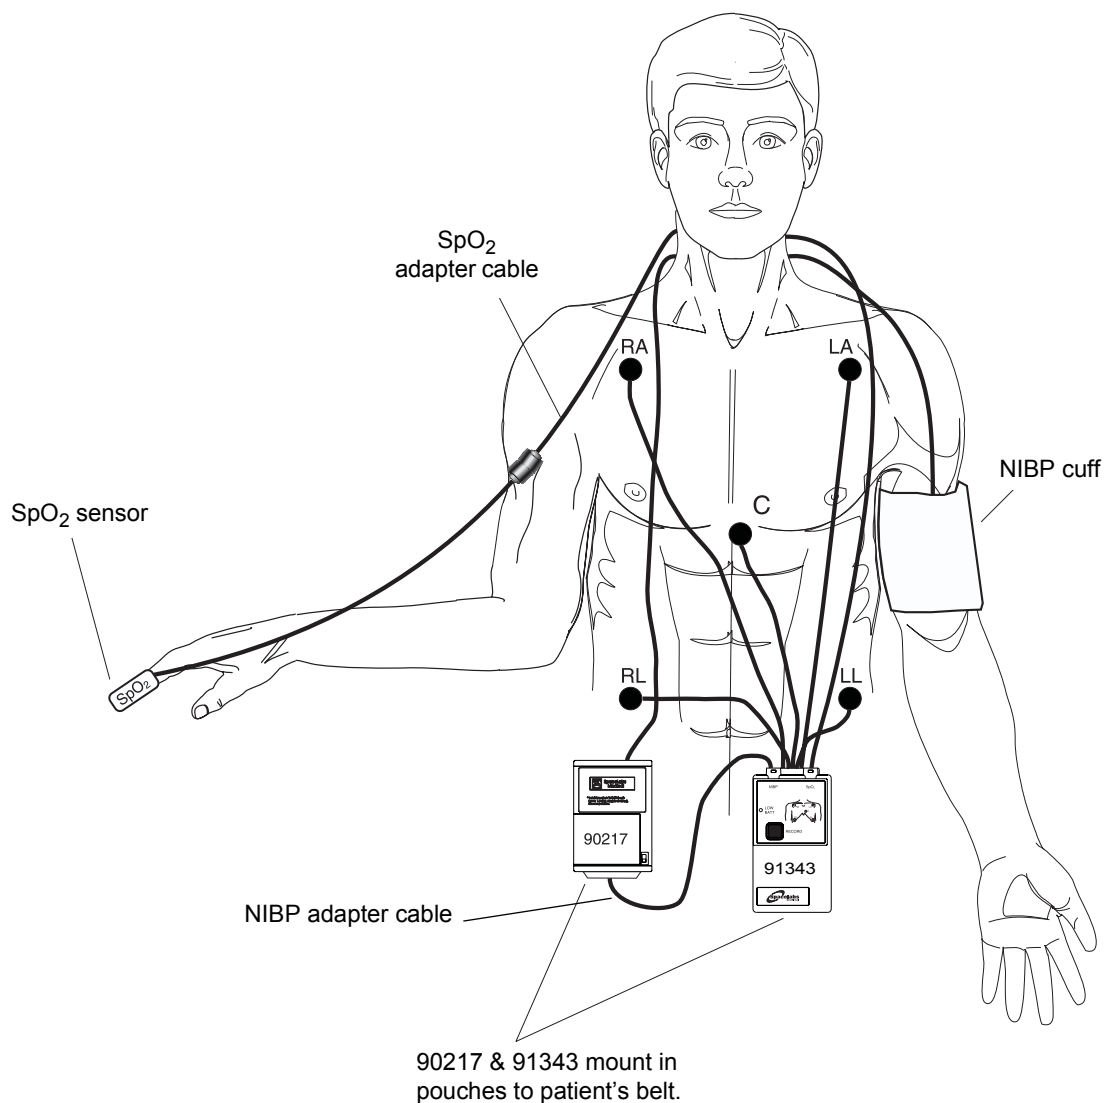

Figure 4-2: Transmitter ECG, SpO₂, and ABP Monitor Connections
11. Interconnect the adapter cable between the communications port on the 90217 and the NIBP port on the 91343 as shown in *Figure 4-2*.